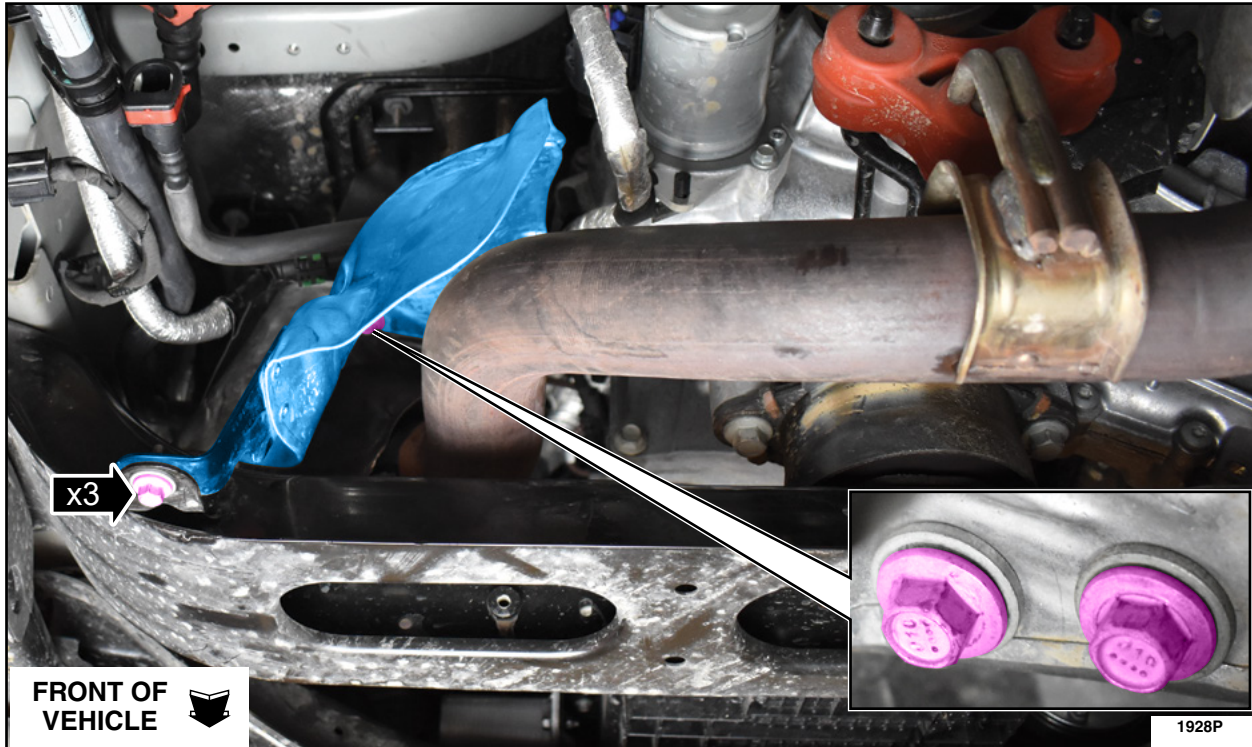

FIGURE 16
17. Remove the LH heat shield retainers and the heat shield. See Figure 16.